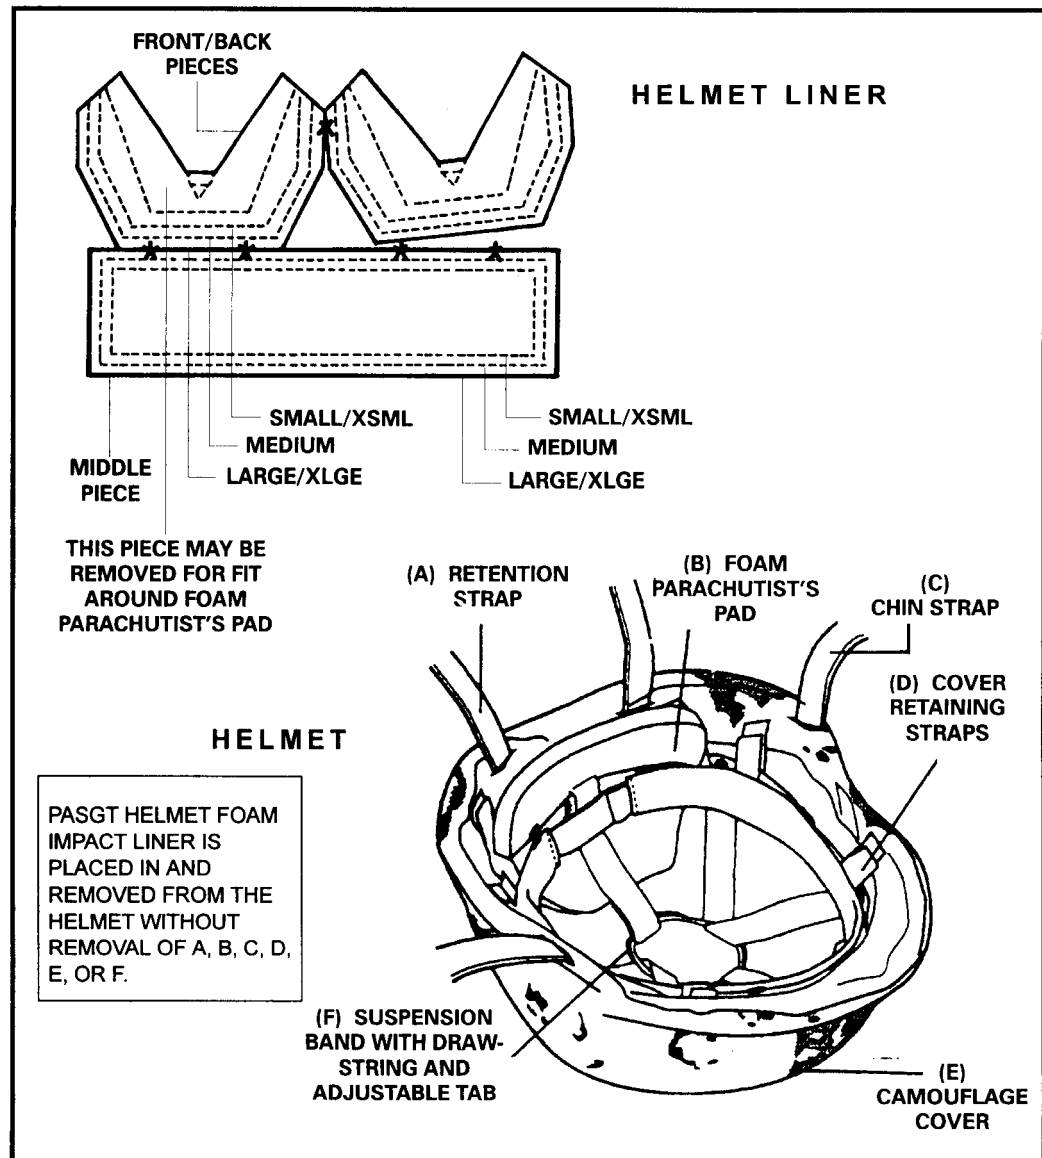

Figure 2-9. PASGT helmet foam parachute impact liner.
- (1) Separate the three portions of the foam PIL.
- (2) Size the PIL at the perforations according to your helmet size (Figure 2-9).